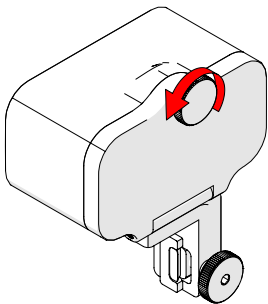

Fig. 19 - Unscrew battery door knob
1. Unscrew the knob of the battery compartment (Fig. 19).